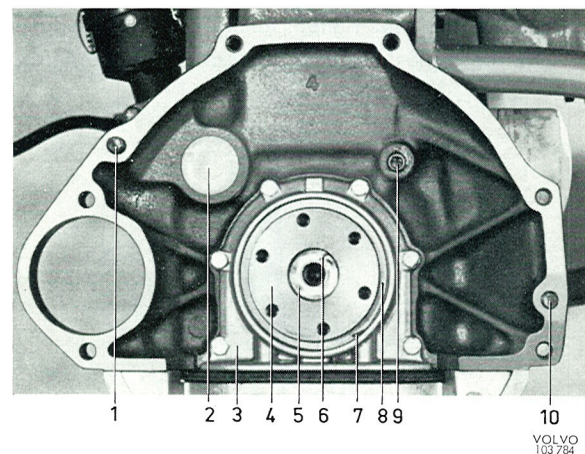

Fig. 2-25. Rear end of engine
The pilot bearing (5, Fig. 2-25) should be lubricated before fitting with heat-resistant ball bearing grease. The bearing and protecting washer are held in position by a circlip (6).